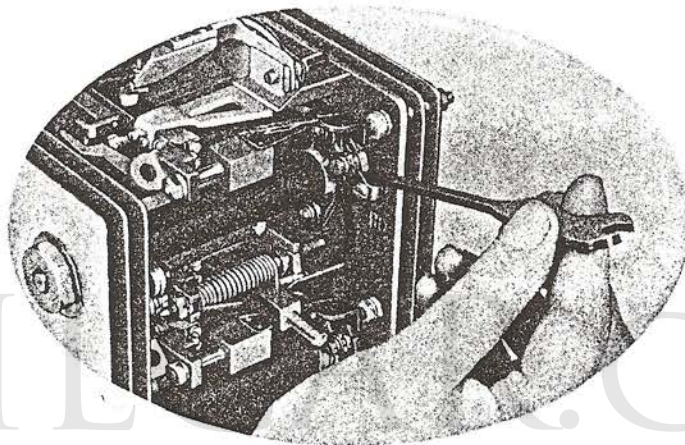
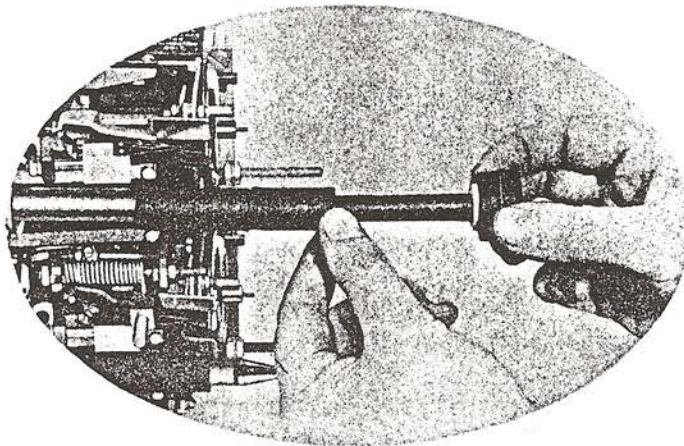

FIG. 2
FIG. 3
To Reset (See Fig.2)
- (1) Disconnect the battery.
- (2) Remove the six 2BA nuts from the studs which secure the right-hand fin assembly.
- (3) Remove the right-hand fin assembly by drawing it off the mounting studs.
- (4) Slide the damaged carbons off their insulating tube.
- (5) Take a spare pile assembly and remove the cap securing the rings.
- (6) Apply the spare pile assembly so that the end of the rod holding the rings slips on to the end of the copper core of the pile mounting of the regulator (see Fig.3).
- (7) Slide the new rings on to the regulator pile mounting (see Fig.3).
- (8) Check that the overall length of these rings when held firmly is as near as possible 80 mm. (3.15 ins.).
- (9) Replace the fin assembly, with washers and nuts, and tighten nuts.
- (10) Reconnect battery.
- (11) Reset the regulator so that the scribe marks are in line (see Fig.2).
- (4) Replace the fin assembly and tighten nuts (see Fig.2).
- (5) The carbon pile should now be reset, if necessary, in accordance with the instructions given under the heading "Pile Resetting" (see Fig.2).
- (8) Turn up the edges of the locking-washers on the last pile rod nuts.
- (9) Replace the piles and right-hand set of fins.
- (10) Reset the regulator so that the scribe marks are in line. (See Fig.2).
- (11) Reconnect the battery.